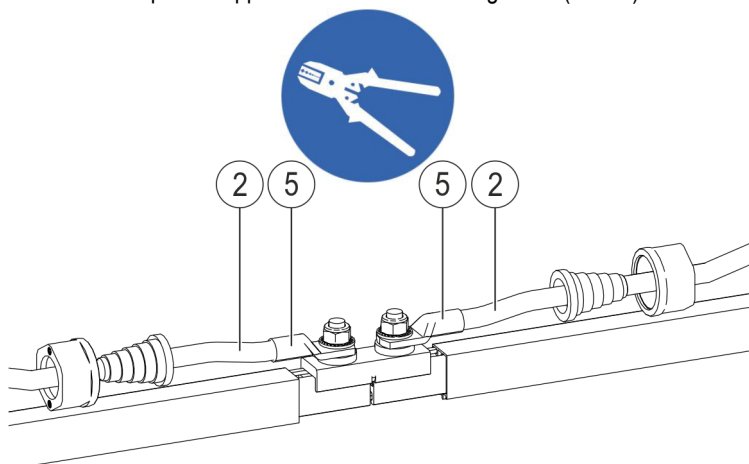

Fig. 89: Crimp cable end (Pos. 2) with notch cable lug
- Crimp the stripped end of the connecting cable (Pos. 2) with the notch cable lug (Pos. 5) crimp (see Fig. 89).